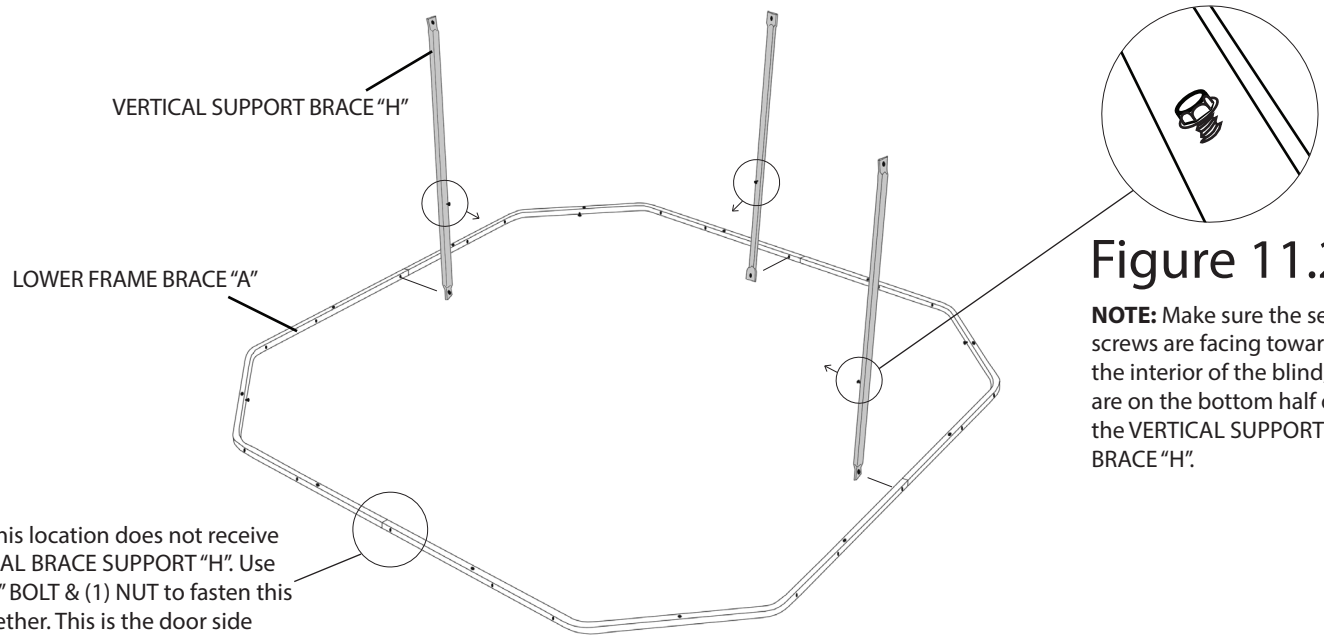

Figure 11.2
STEP 3: Locate the (3) VERTICAL SUPPORT BRACE "H". Using (3) 1-1/4" BOLTS & (3) NUTS attach the VERTICAL SUPPORT BRACES "H" to the LOWER FRAME BRACES "A" where the male & female ends join, as illustrated in Figure 11.1. Make sure the set screws on the (3) VERTICAL SUPPORT BRACES "H" are facing towards the interior of the blind, and on the bottom half of the part, as illustrated in Figure 11.2.